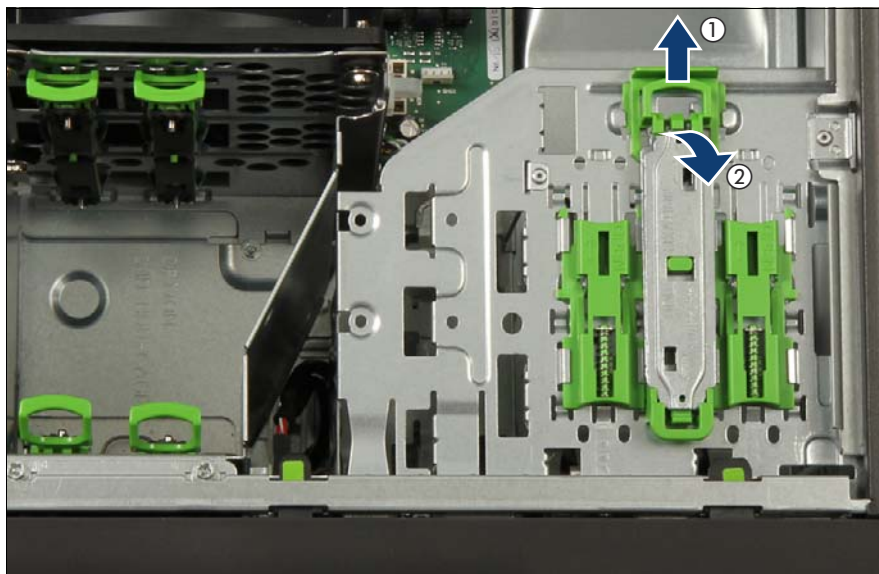

Figure 107: Removing the fixation plate from the chassis
- ▶ Remove the fixation plate from the chassis (see figure 107).